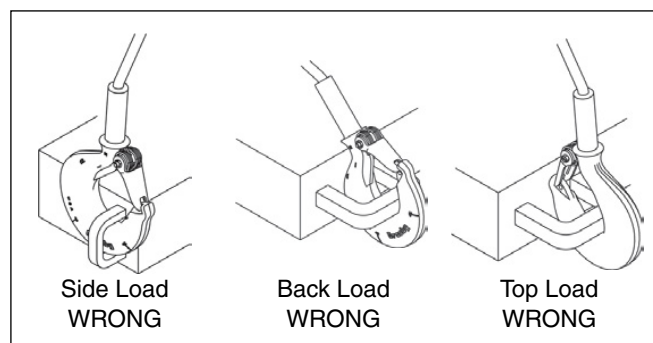

Figure 2
- Never side load, back load, or tip load a hook. (See Figure 2).
Crosby Spelter Sockets are available in both the closed and open design (see Figure 1 and Figure 2 above). These types of poured sockets are generally used as a straight tension member. They are commonly used on crane boom pendant lines and on applications that require an anchoring system to be connected mechanically to a structure, such as on bridges and roof systems. They are also occasionally used on crane hoist lines to connect to a crane block or overhaul ball.